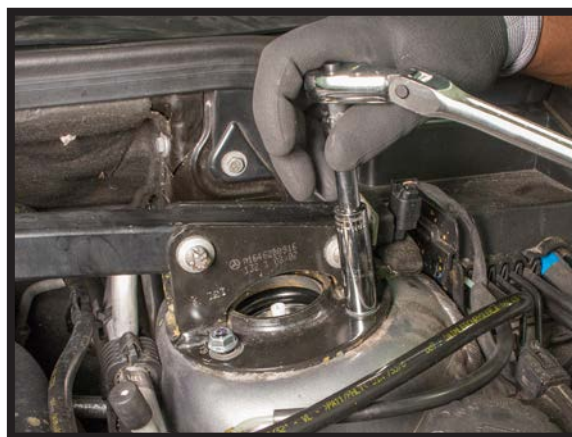

FIGURE 11
5. USING THE SUPPLIED HARDWARE, INSTALL AND TIGHTEN THE TOP MOUNTING NUTS TO MANUFACTURER'S SPECIFICATION. (FIGURE 11)